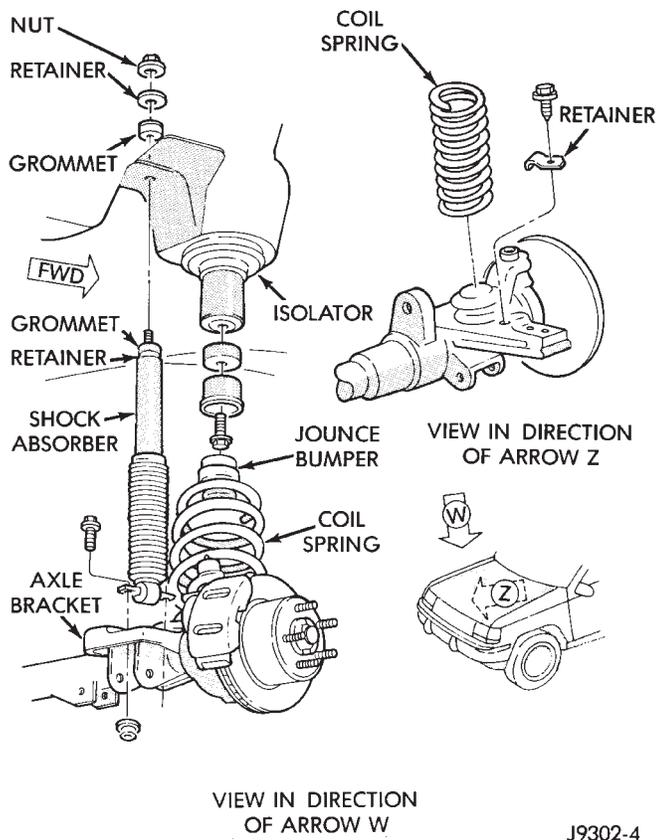

Fig. 2 Coil Spring & Shock Absorber
- (1) Remove the nut, retainer and grommet from the upper stud in the engine compartment (Fig. 2).
- (2) Remove the lower nuts and bolts from the axle bracket. Remove the shock absorber.
(5) Disconnect the stabilizer bar link and shock absorber from the axle.
(6) Disconnect the track bar from the frame rail bracket.
(7) Disconnect the drag link from the pitman arm.
(8) Lower the axle until the spring is free from the upper mount. Remove the coil spring retainer bolt (Fig. 2) and remove the spring.
(9) Remove the jounce bumper if necessary from the upper spring mount (Fig. 2).